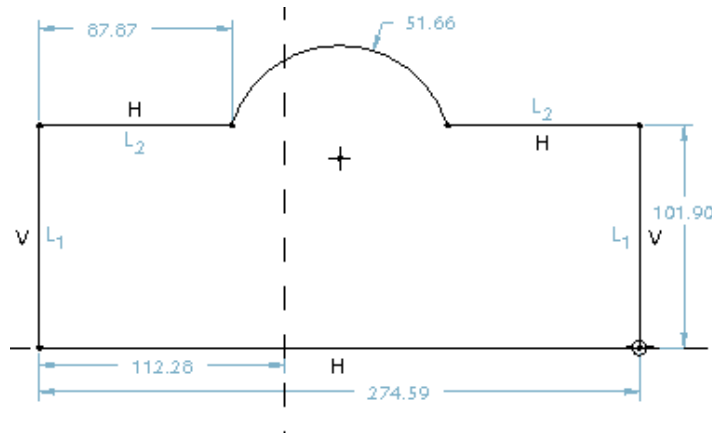

Figure 3-59 Sketch for the thin extruded model
- Draw the sketch using the sketching tools and apply dimensions, refer to Figures 3-59 through 3-61.
1. Draw the arc shown in Figure 3-59 using the **Create an arc by 3 points or tangent to an entity at its endpoint** button from the **Sketcher Tools** toolbar. Complete the sketch, as shown in Figure 3-59.